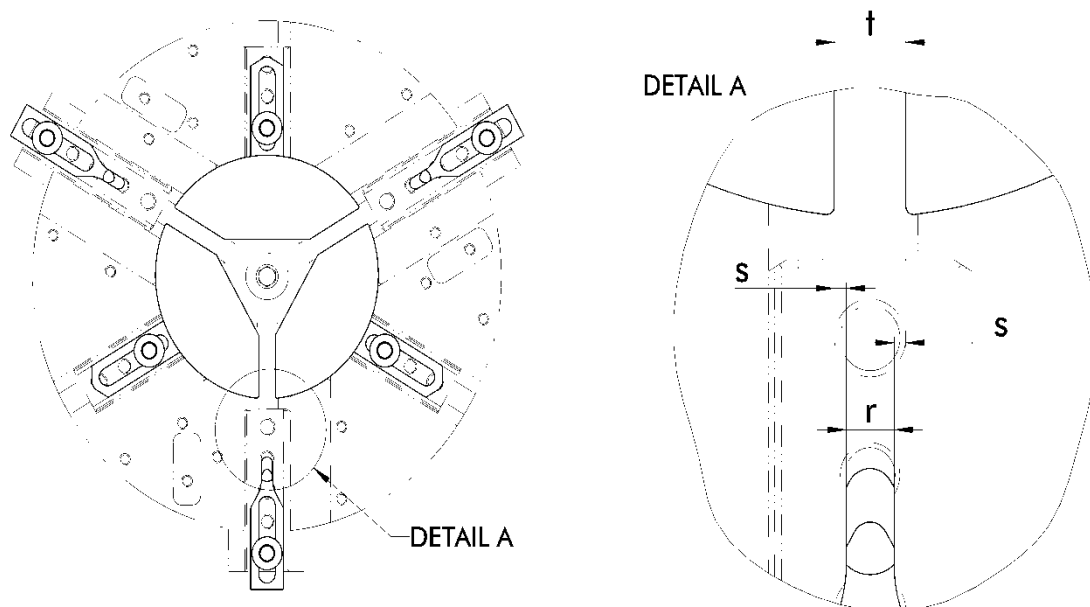

Figure 17: Settings of the assembly fingers and segment jaws
1. When triple jaw A is open, the assembly fingers must be outside of the seal with a defined clearance (dimension o) to the seal (cf. Figure 17 und Figure 35).
2. When triple jaw B is closed, the segment jaws must each be set at a defined distance (dimension t) to each other (cf. Figure 17 und Figure 35).